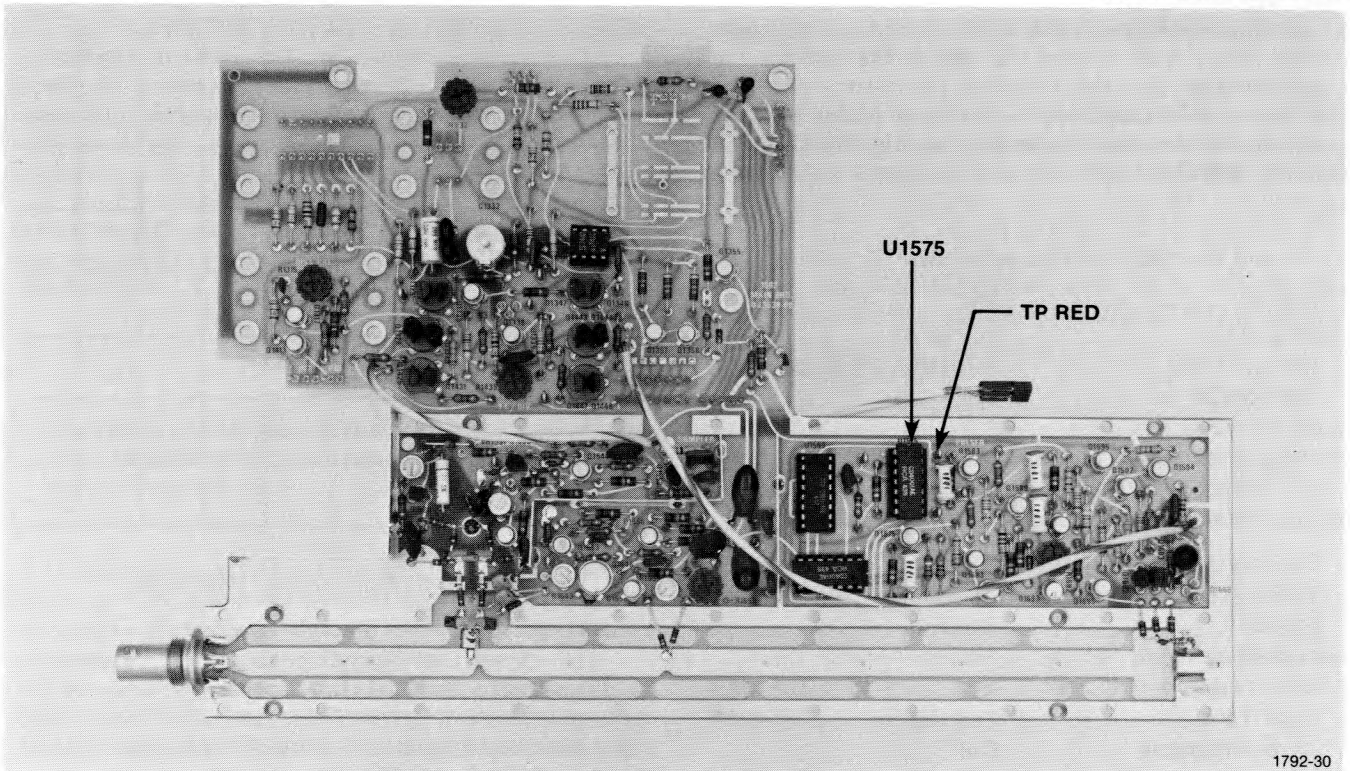

Fig. 4-6. Main Board Test Point.
17. Move the test lead to connector P65 Pin 6 (see Fig. 4-6) and check that the voltmeter reads $+100\text{ V} (+20\text{ V}, -5\text{ V})$.
(b). Adjust—INTENSITY LIMIT (R4222) for 100 mVdc reading at test point TP4243 to gnd (option 1: 60 mV). The adjustment is made through the hole near Q6427 on the power supply board (see Fig. 4-6).
Turn the instrument POWER off. Turn the instrument upside down and remove the shield that covers the pulser/sampler circuitry (remove 12 screws). Remove U1575 from its socket. In the following steps, instructions are given on how to provide an external trigger to the 1502 (see Fig. 4-6).